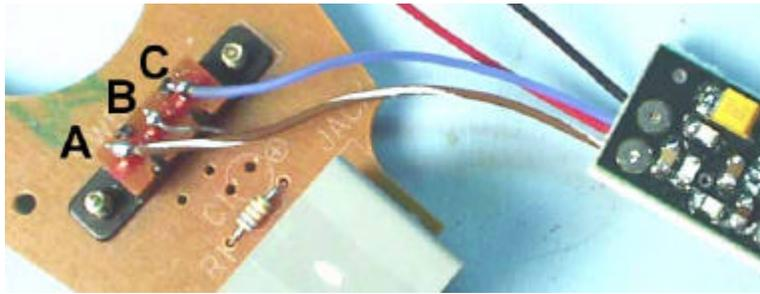

Figure 8.
- 8. With the One BIG Punch unit positioned as shown in Fig. 8, solder the brown wire with the white trace to lug A on the tone switch and the blue wire to lug C.